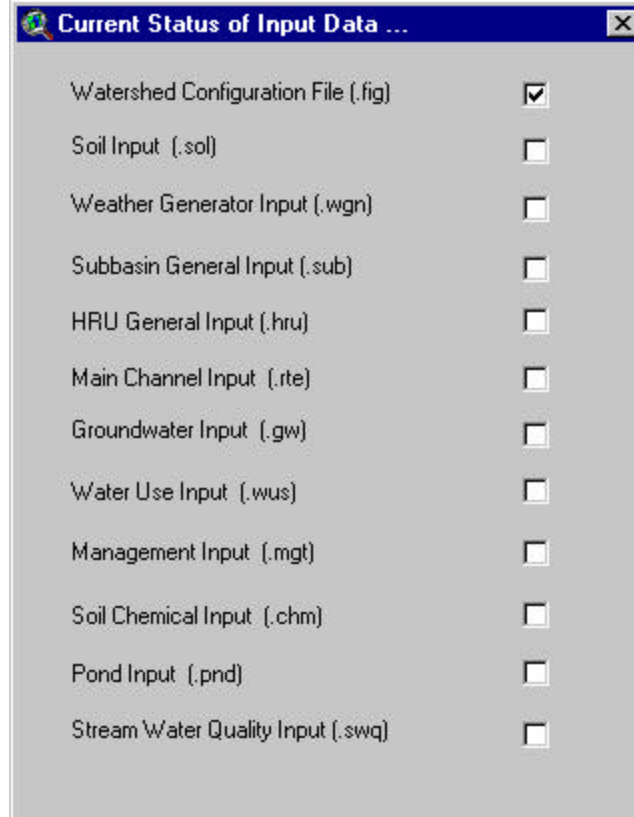

Figure 8.4
- b. The Current Status of Input Data message box that lists the different databases being generated appears (Figure 8.4). As each database is completed, a check mark appears next to the database name and a beep sounds.